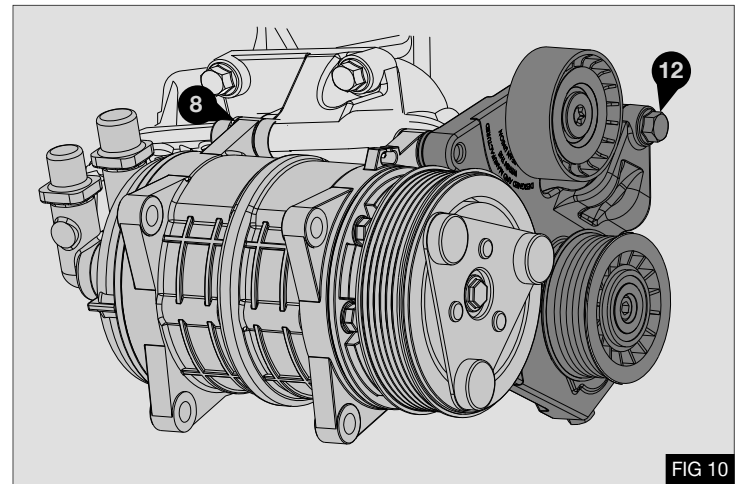

FIG 10
3. Mount the tensioner bracket assembly to the front compressor ears, using the 2 x M10 x 130 bolts ⑧ previously fitted - Fig 10
4. Secure the tensioner bracket assembly to the mounting point for the original idle pulley, using bolt ⑫ M8 x 35 - Fig 10